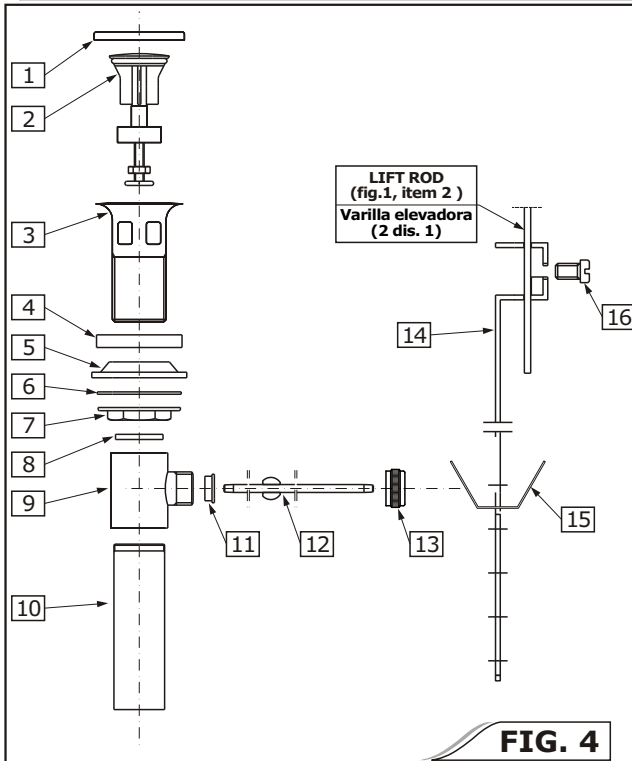

FIG. 4
- ➔ Dismantle the drain assembly to the parts shown on **fig. 4**.
- ➔ Insert collar gasket (4) and drain collar (3) into drain hole of a lavatory. From underneath the lavatory slip under-bowl gasket (5) into drain collar (3), washer (6) and flanged nut (7).
- ➔ Position under-bowl gasket (5) correctly under the lavatory and screw flanged nut (7) firmly but do not overtighten.
- ➔ Make sure washer (8) is inside drain body (9) and screw drain body (9) onto drain collar (3) hand tighten only.